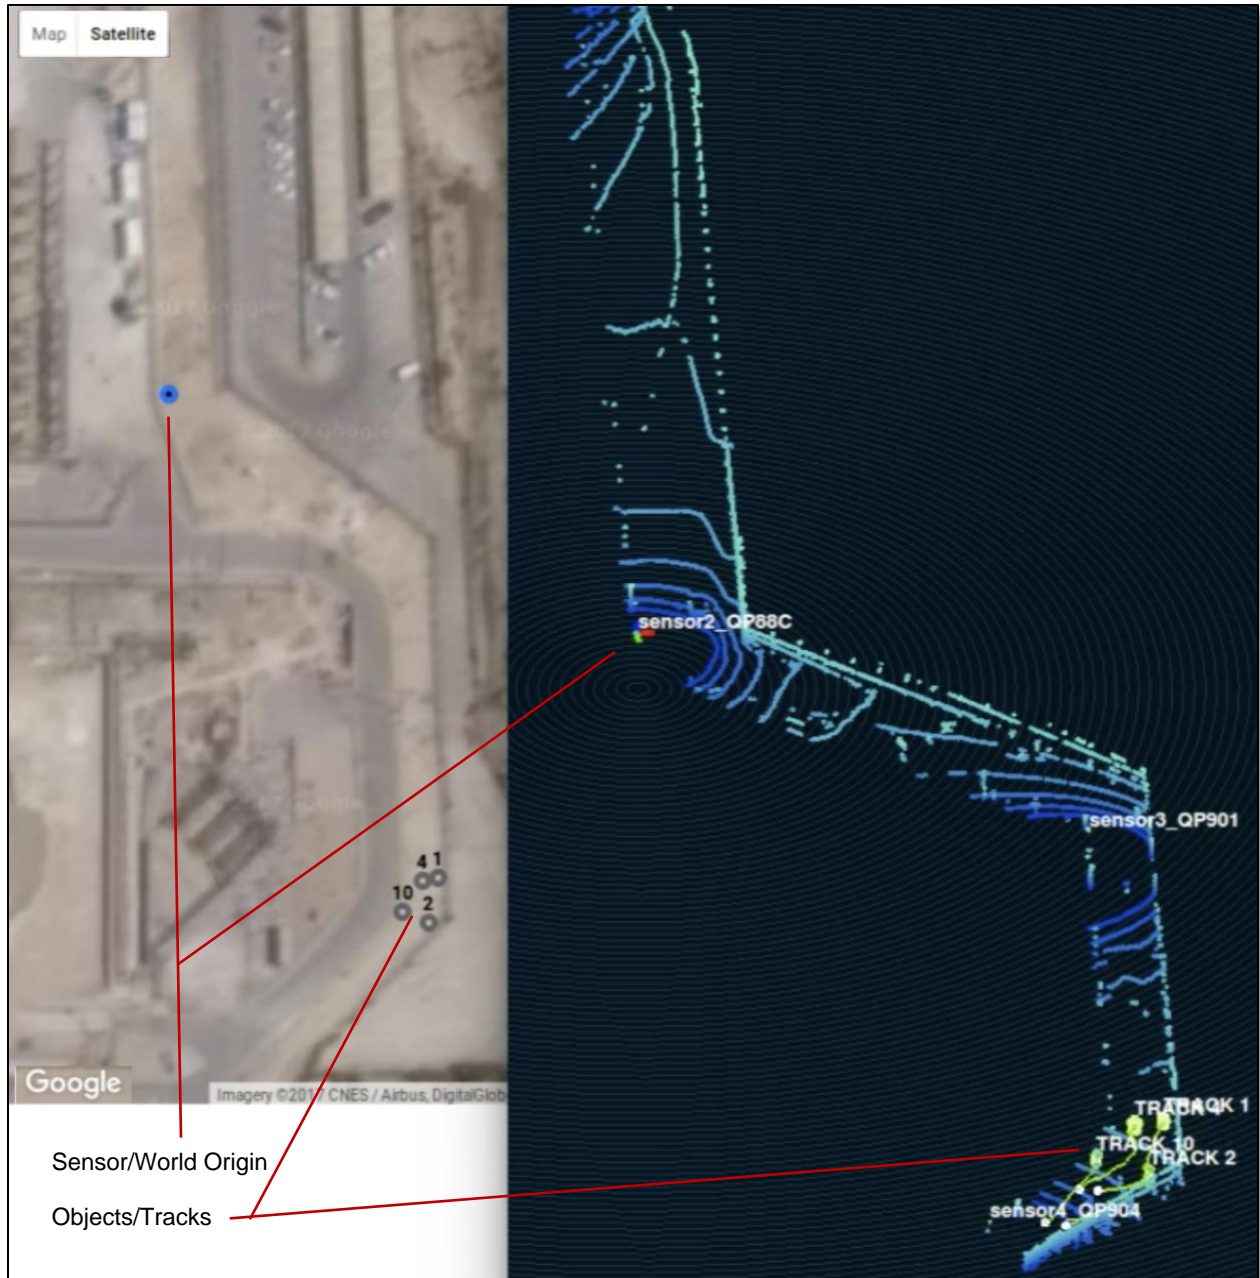

Figure 123. Web Server and Google Maps Tool: Example Site
4. The message `Server Status: Connected` is displayed, and objects are seen moving on Google Maps. See Figure 123. Web Server and Google Maps Tool: Example Site.